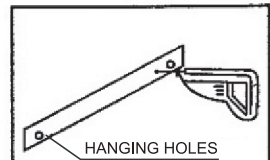

Fig. 2-1
3. Select suitable position for installation. Drill hole on the wall by using 1/4" tread bit and put screw lock inside the hole to fit wooden screw with matching hanging holes (Fig. 2-1).